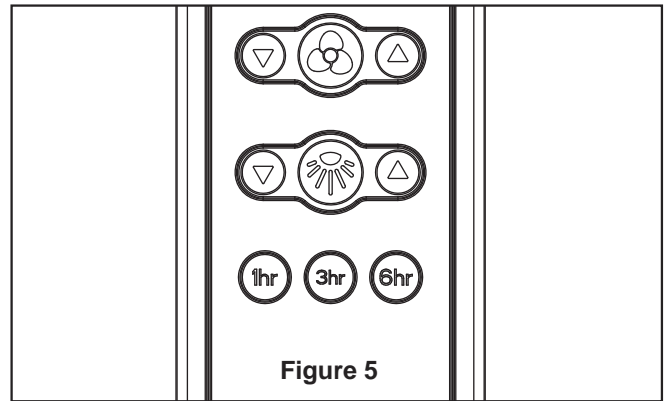

Figure 5
5. Assemble the light plate/LED assembly to the light kit using the two key slots and replace the third screw and securely tighten all three screws. (Figure 5)
### 5. Remote functions: (Figure 5)